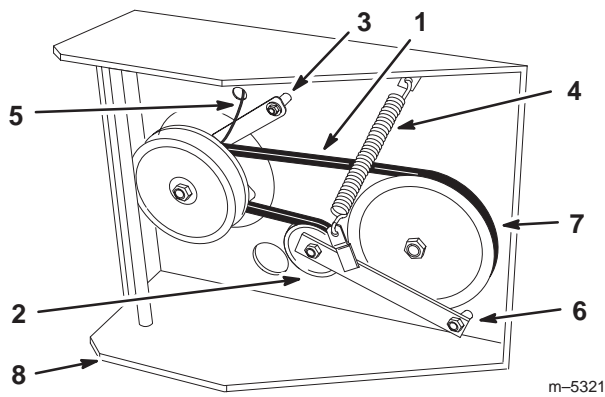

Figure 62
6. Disconnect clutch retainer from the engine deck (Fig. 62).
7. Unhook tension spring from side of frame (Fig. 62).
10. Torque pivot bolt to 35-40 ft-lb (47-54 N ). Install tension spring between idler arm and frame bracket (Fig. 62).
11. Install clutch retainer to the engine deck (Fig. 62).